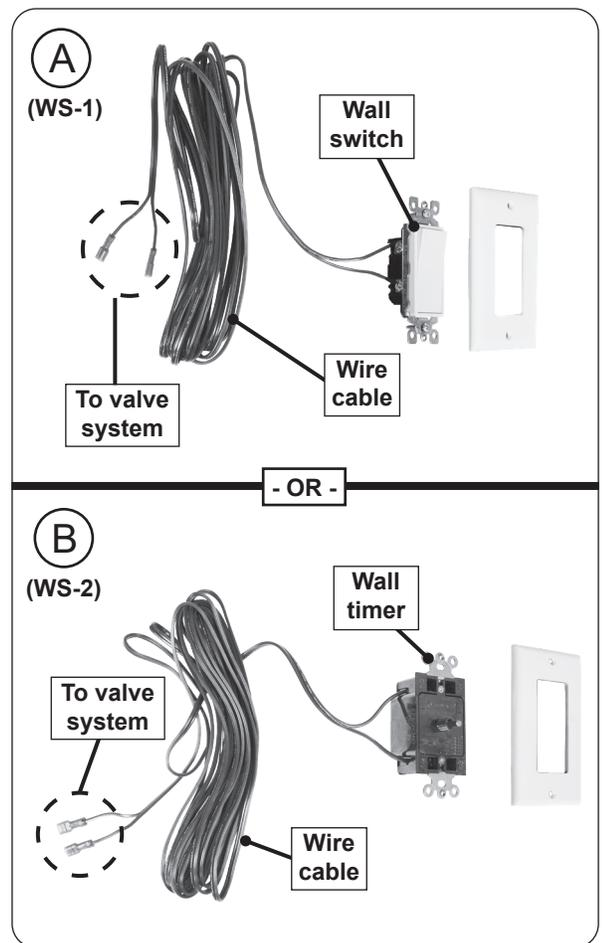

Fig. 1-1 Installation overview
6. **For the wall switch,** attach the wire to the side terminal screws, connecting one spade clip to each terminal screw. Tighten the terminal screws securely (see Fig. 1-1,A). **For the timer,** pass the wires into the connection chamber. Using the supplied screws with pressure plates, securely fasten wires into place (see Fig. 1-1,B).